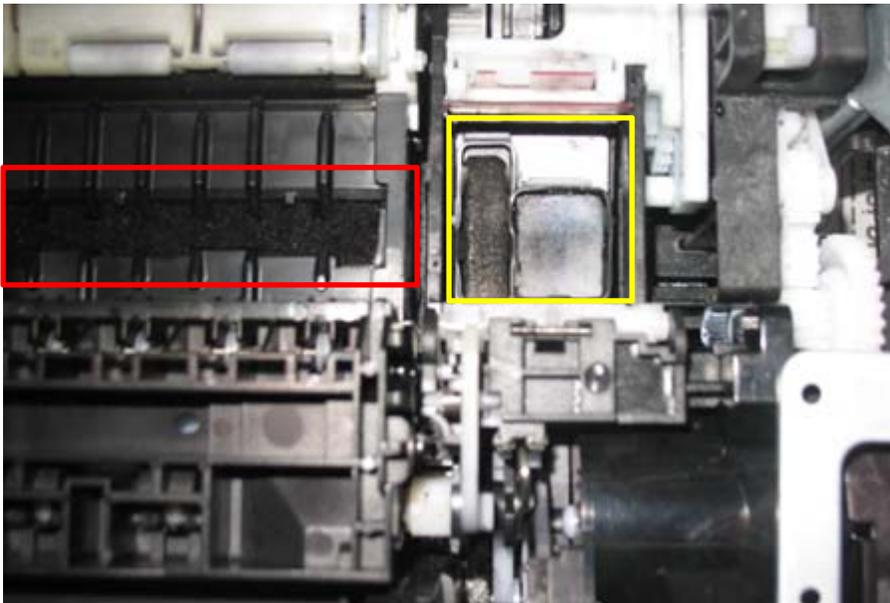

Figure 4
- 4) If you can be equally as careful and agile with the sprayer, you can also flush through old ink that accumulates in the foam under the print head carriage area (see the red box in Figure 4 below). I did not brush that foam, only flushed it.
Note above in Figure 4 that my brushing had moved the left black ink pad slightly forward out of its soft rubber basin (see yellow box). Now see Figure 5 below where I have made sure that the ink pads are centered in place and have the little rubber “clamps” over top of the pads, thus securing the pads.
- 5) Although not pictured in Figure 4, all the way on the left side of this print head carriage foam area, there is a little clear plastic ink “drain chute” (that drains forward and down) that you can clean up while you’re there.